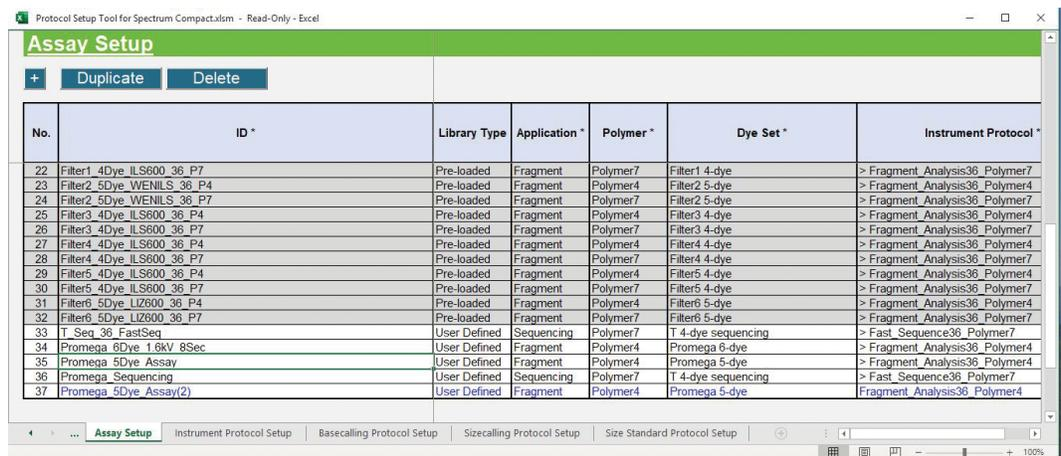

Figure 202. 'Assay Setup' worksheet with duplicated assay.
3. Select the desired assay ID, and select **Duplicate** at the top of the 'Assay Setup' worksheet if you are not planning to overwrite an existing user-defined protocol (Figure 201). The new assay will have the same name as the one that was duplicated, but with a numerical suffix (Figure 202).